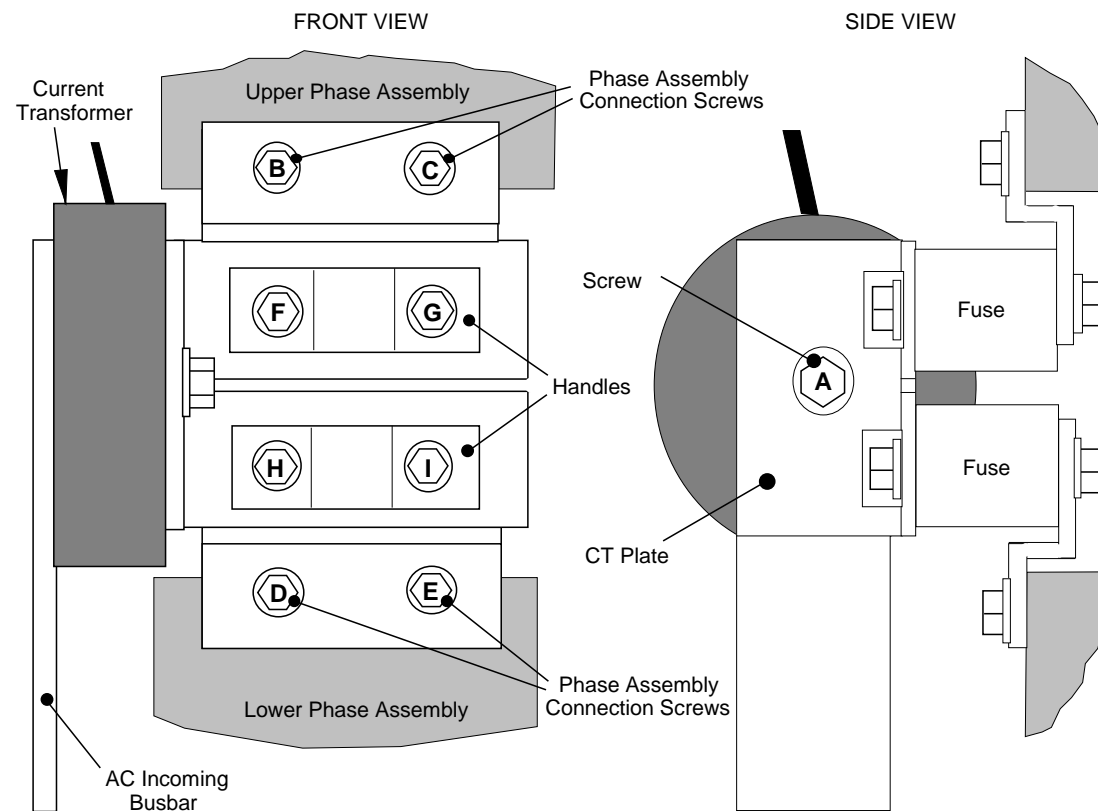

Figure 8-1 590+ (Frame 7) Fuse Replacement Diagram
1. Referring to Figure 8-1 (590+) or Figure 8-2 (591+), remove the M12 screw (A). Undo the four screws (B, C, D, E) which allows the CT plate and fuse assembly to be removed.